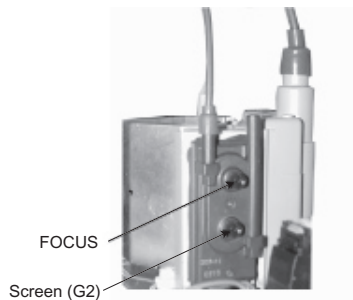

Figure 2
3. Adjust focus VR clockwise (DE-Focus) to confirm that the dot's shape is centered. (Figure 2 & 3) Confirm neck assembly rotation by W Board position. W Board should be level  $\pm 1^\circ$ . Adjust as necessary to balance dot shape along center horizontal line, then refocus.